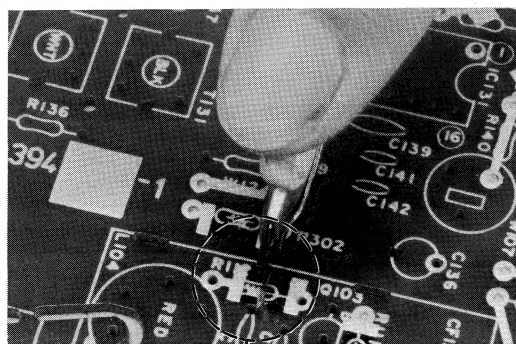

Fig. 13
- (1) When replacing a printed resistor, cut off the printing by a pointed tool as shown in Fig. 13.